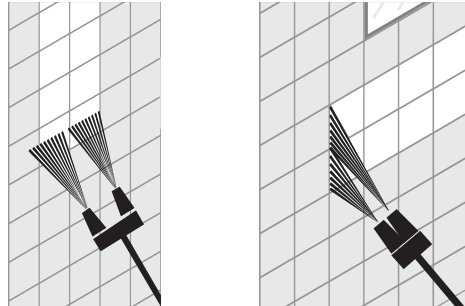

Fig. 8
4. Turn the spray gun (9) to orientate the fan jet in a better way (Fig. 8).